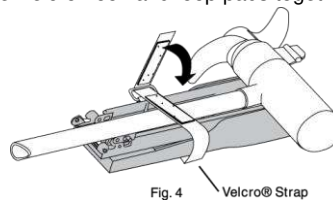

Fig. 4
11. A Velcro Strap is included with this kit. We recommend installing this Strap if your motor does not already have one. Position the Strap with the Velcro pads towards the deck. Place Strap under Motor Rest, just in front of the rear mounting bolts. When stowing the motor pull the Strap through the rectangular ring until snug. Then press the Velcro hook and loop pads together to secure the Strap. See Fig. 4.